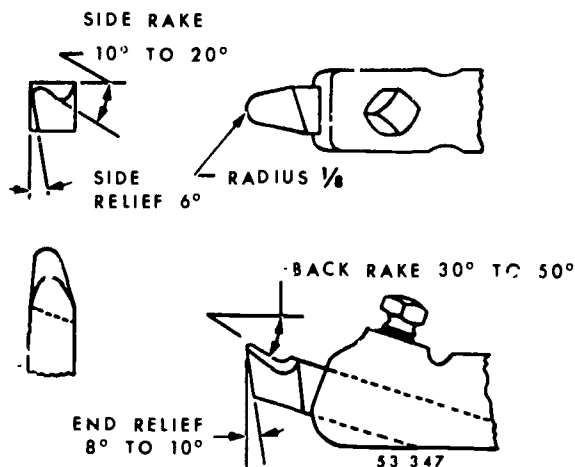

Figure 2-4 Aluminum shear tool
**Aluminum shear.** Use the aluminum shear tool, shown in figure 2-4, for finishing cuts on aluminum.